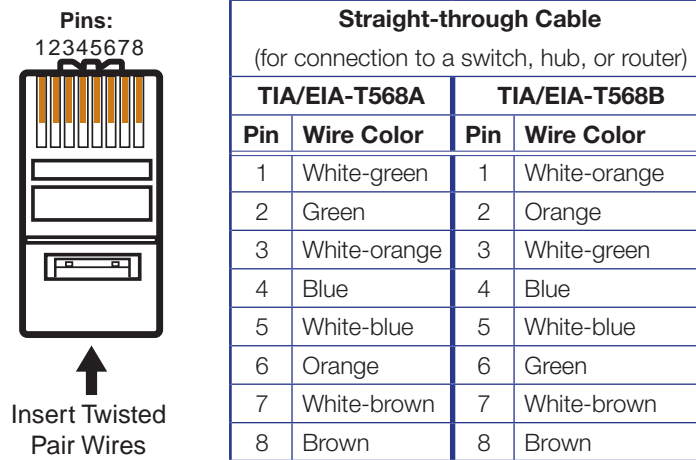

Figure 5. TP Cable Termination
- Terminate cables with shielded connectors to the TIA/EIA-T568B standard (see figure 5).